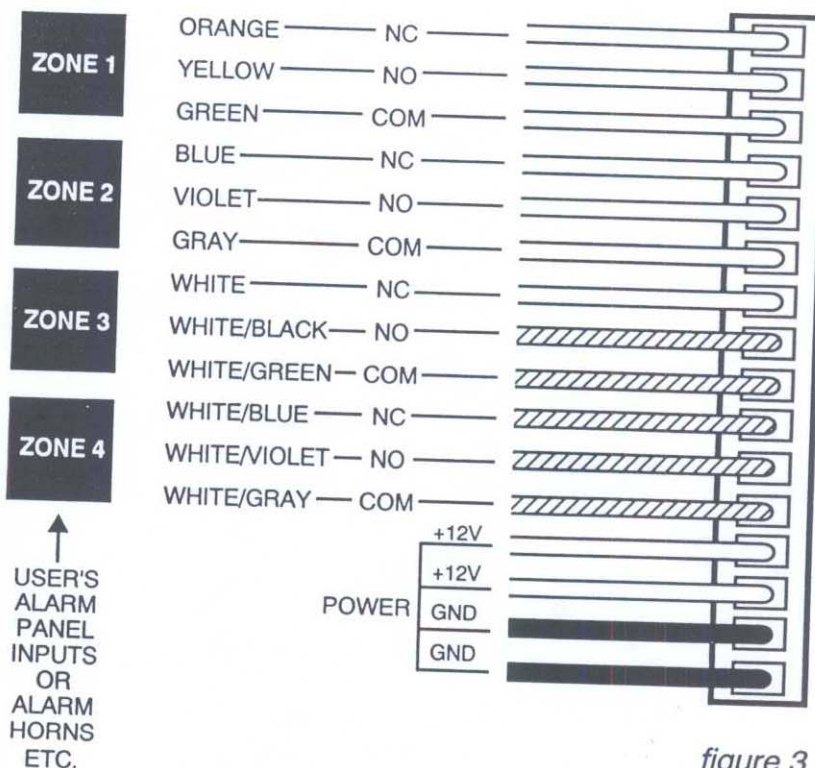

figure 3
b) Depending on the type of relay output desired (N/O or N/C) connect with the normally open and common wires or the normally closed and common wires to an open zone on your alarm panel. (See figure 3)
IMPORTANT: Figure 3 shows the relay contacts in a NON-ALARM state (with power applied). For example a contact labeled NC (Normally Closed) will make contact (be closed) with the COM (Common) contact when the DPM-4 is NOT in an alarm condition. Be sure to select the correct contacts, NO or NC.